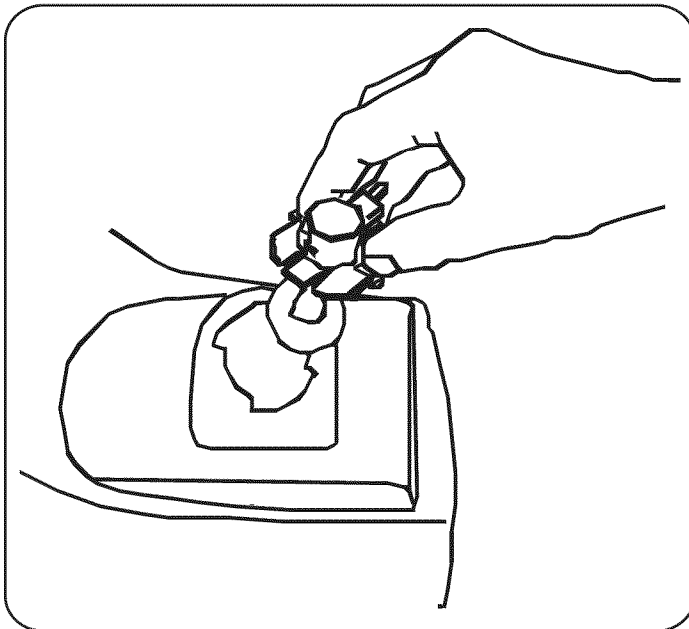

Figure 18
3. Rotate the socket assembly approximately a ¼-turn to align the socket tab with the reflector housing notch; then withdraw the bulb and socket assembly from the reflector housing. See Figure 18.
5. Align a locking post of the bulb base with the notch in the socket, then push the bulb inward and turn clockwise to lock. See Figure 18.